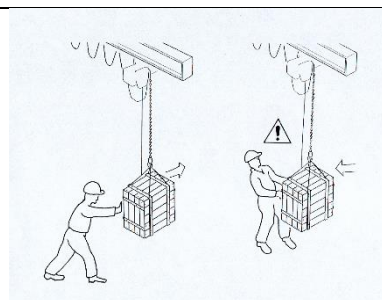

fig. 56
- **In manual traverse and/or arm rotation manoeuvres** the operator must move the load by pushing it and never by dragging it towards himself, to prevent the risk of being crushed (fig. 56).